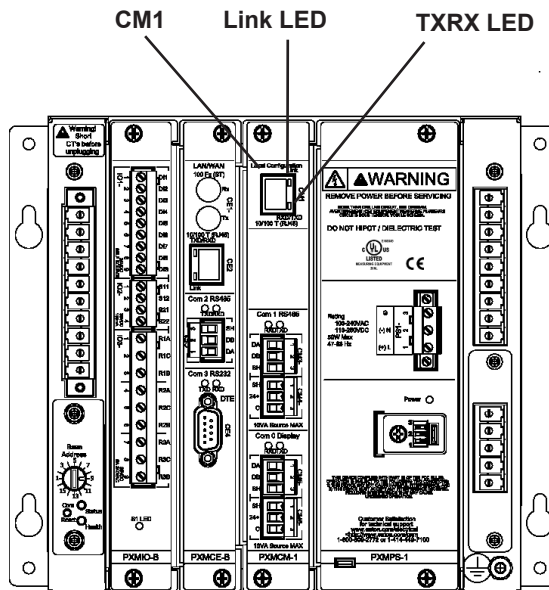

Figure 7: Connect Laptop to Meter Module
B. Connect the Laptop to the Meter Module via CM1 port (see figure 7 below) using a UTP **Cat5 Patch Cable**. Note that the IP address of the CM1 port is permanently configured to be 192.168.1.1.